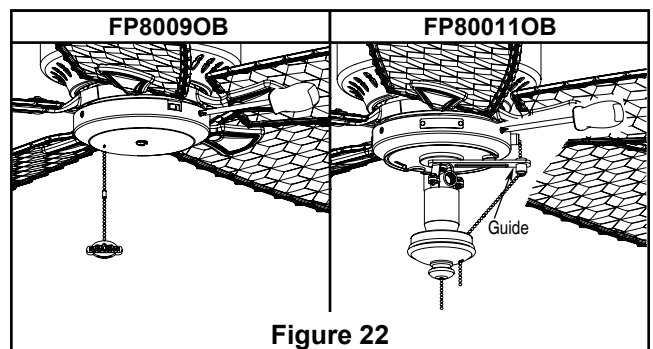

Figure 22
- 4. Install the housing switch cup onto the assembled adapter with the three screws removed in step 1. The fan speed pull chain need to align the hole of guide in the light fitter. (Figure 22)